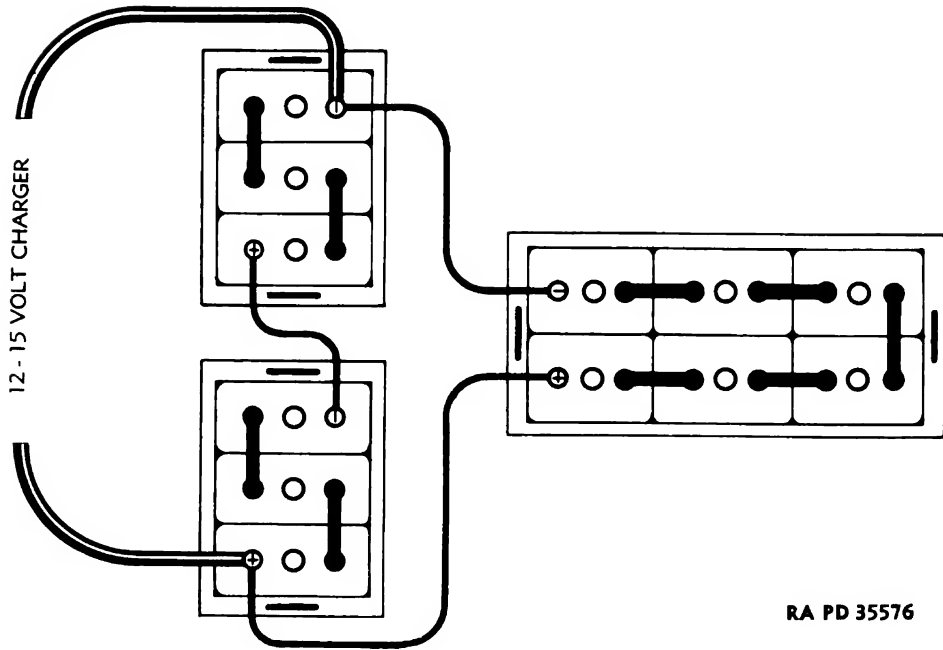
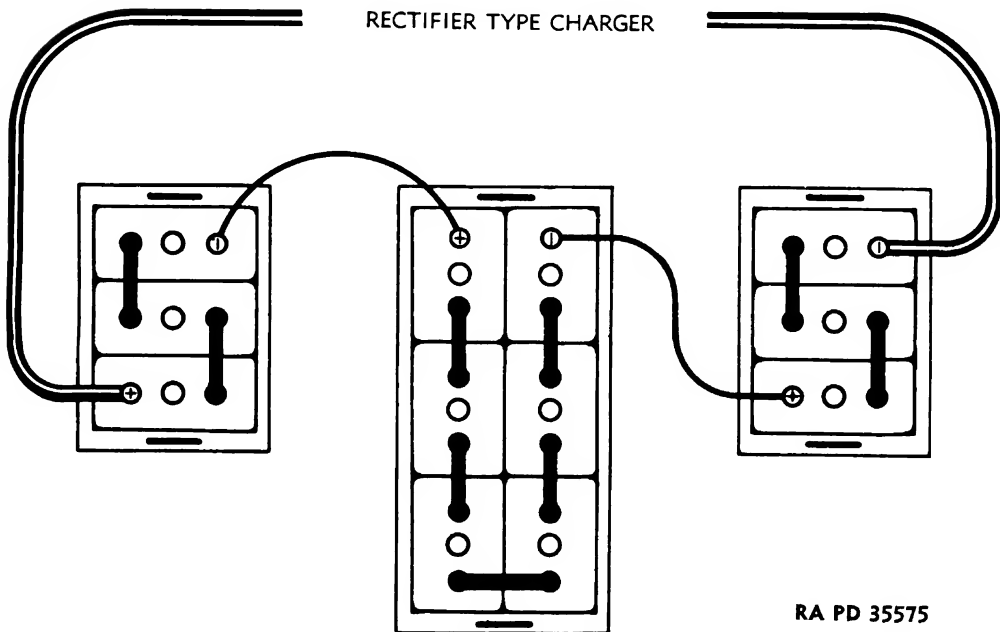

Figure 147 — Charging Two 6-volt Batteries and One 12-volt Battery in Parallel
Figure 148 — Charging Two 6-volt Batteries and One 12-volt Battery in Series
d. **Battery Chargers.** Three types of battery chargers are likely to be encountered in ordnance establishments: Motor generator sets which operate from 110 volts alternating current; engine-driven generators; and rectifier-type chargers. The motor generator sets and the engine-driven generators have constant-potential-type generators. They generate at a voltage suitable for charging 12-volt batteries, and have connections for charging 6-volt batteries also. When using these chargers, the batteries are connected in parallel (fig. 147), and care must be taken to avoid overloading the generator. Reduce the generator voltage or limit the number of batteries being charged at one time to reduce the load on the charger. The rectifier-type chargers are of the constant-current type, and are generally limited to low values of current. The batteries are charged in series (fig. 148), and the voltage may be adjusted to suit the number of batteries being charged. Care must be taken when charging batteries in series to have only batteries of approximately the same capacity and condition on charge at the same time. It is possible when charging a strong and a weak battery that the stronger battery will act with the charger, and charge the weak battery with reversed polarity.